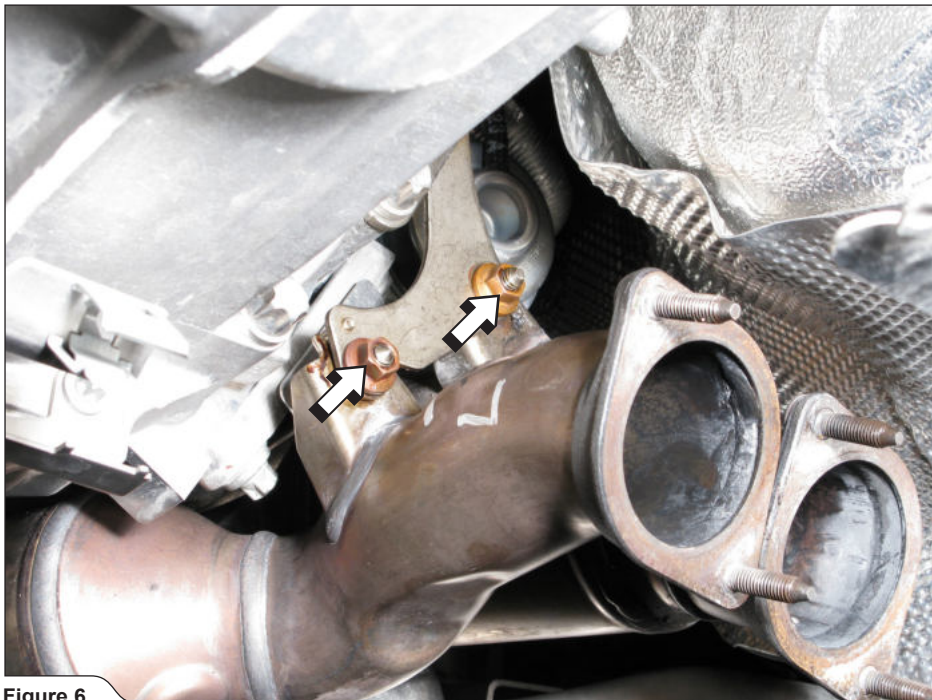

Figure 6
6. **For Evolution:** loosen the marked down pipes' bracket nuts (**Figure 6**).